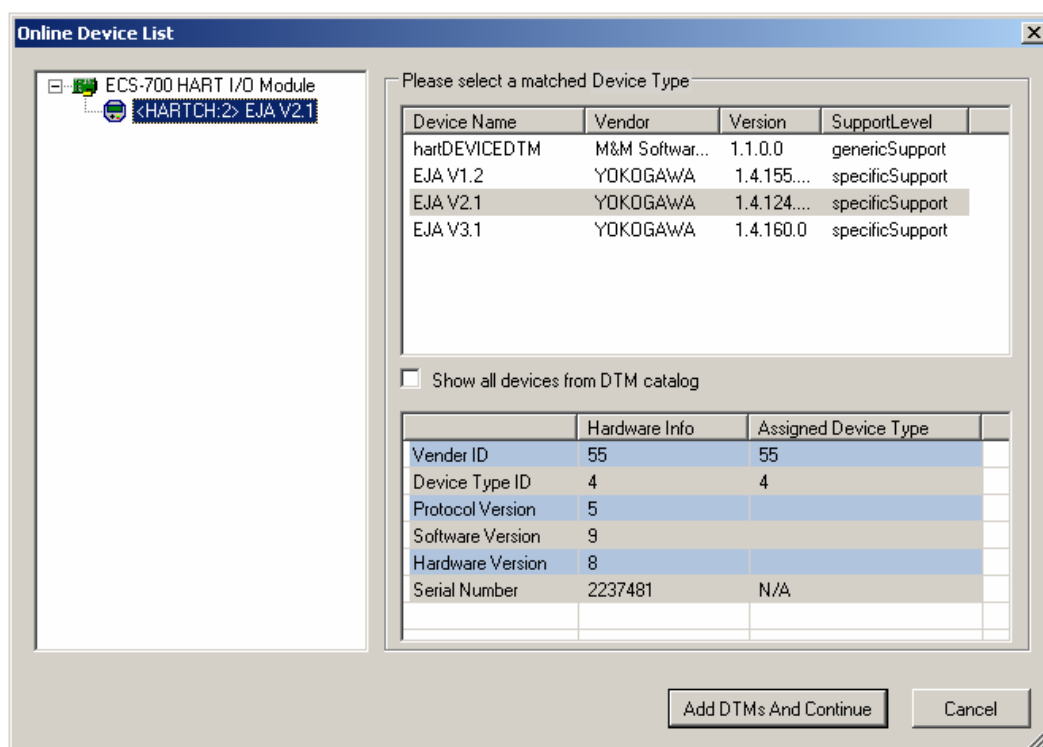

Figure 4-56 Has several matched DTM device
- If the device has several matched device DTM, a dialog as shown in Figure 4-56. User
Item instruction of Figure 4-56 is shown in Table 4-3.
1. Select according to the matching degree shows in Hardware Info and Assigned Device Type. For example, in Figure 4-56, the device type supported by DTM should match with device whose vender ID is 55 and device type ID is 4.